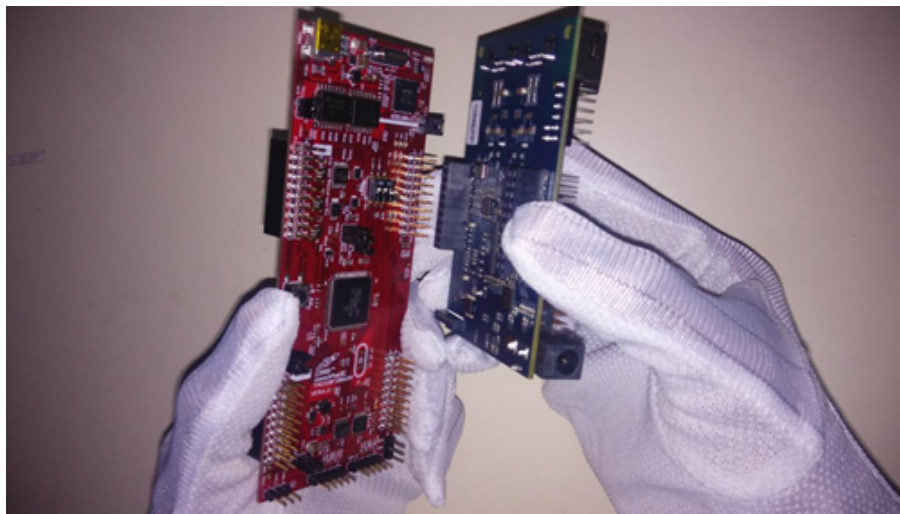

Figure 22. AMIC110 ICE and F28069M LaunchPad Connection (1 of 2)
1. Insert the AMIC110 ICE headers (J4 and J5) to the F28069M LaunchPad headers (J1, J3, J2, and J4). See Figure 22.